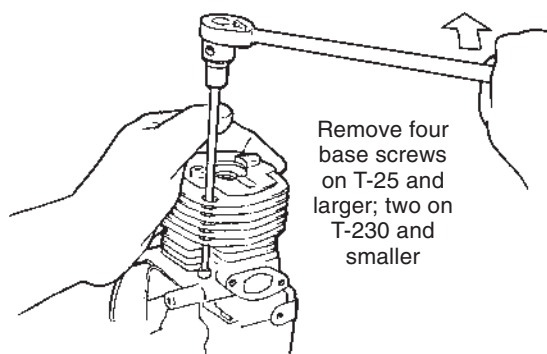

Figure 7.2 Removing cylinder base screws.
**STEP 3.** Remove the cylinder base screws (Figure 7.2), then carefully pull the cylinder from the piston and crankcase assembly.